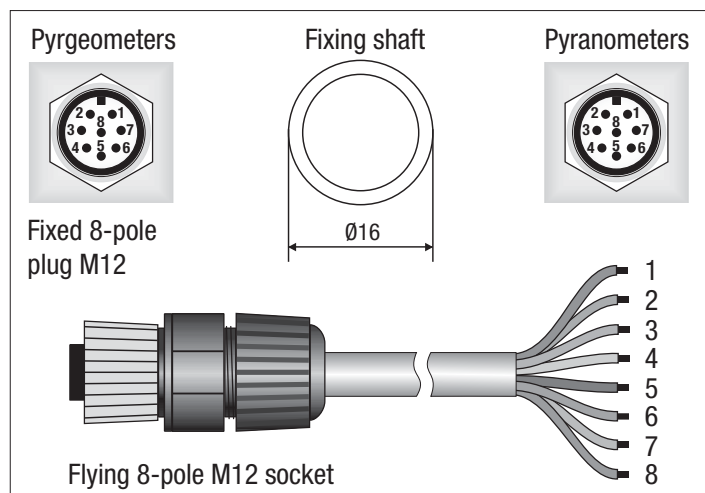

FIG. 5
- The optional cables end with an 8 pole connector on one side and open wires at the other side. The cable is made in UV-resistant PTFE and is provided with 7 wires plus braid (screen), the diagram with the correspondence between wire colours and connector poles is the following (figure 5):